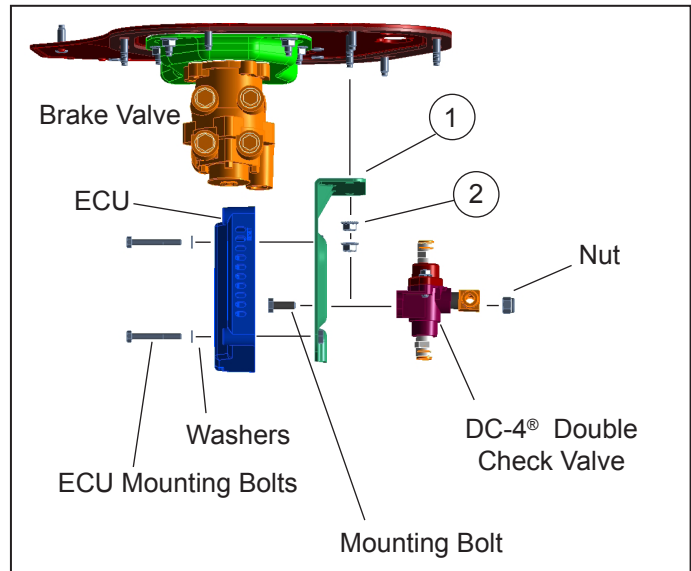

Figure 3 – (Type B) Bracket with ECU and a DC-4 Double Check Valve
- Type B - Bracket with an ECU and a Bendix® DC-4® Double Check Valve (See Figure 3.)